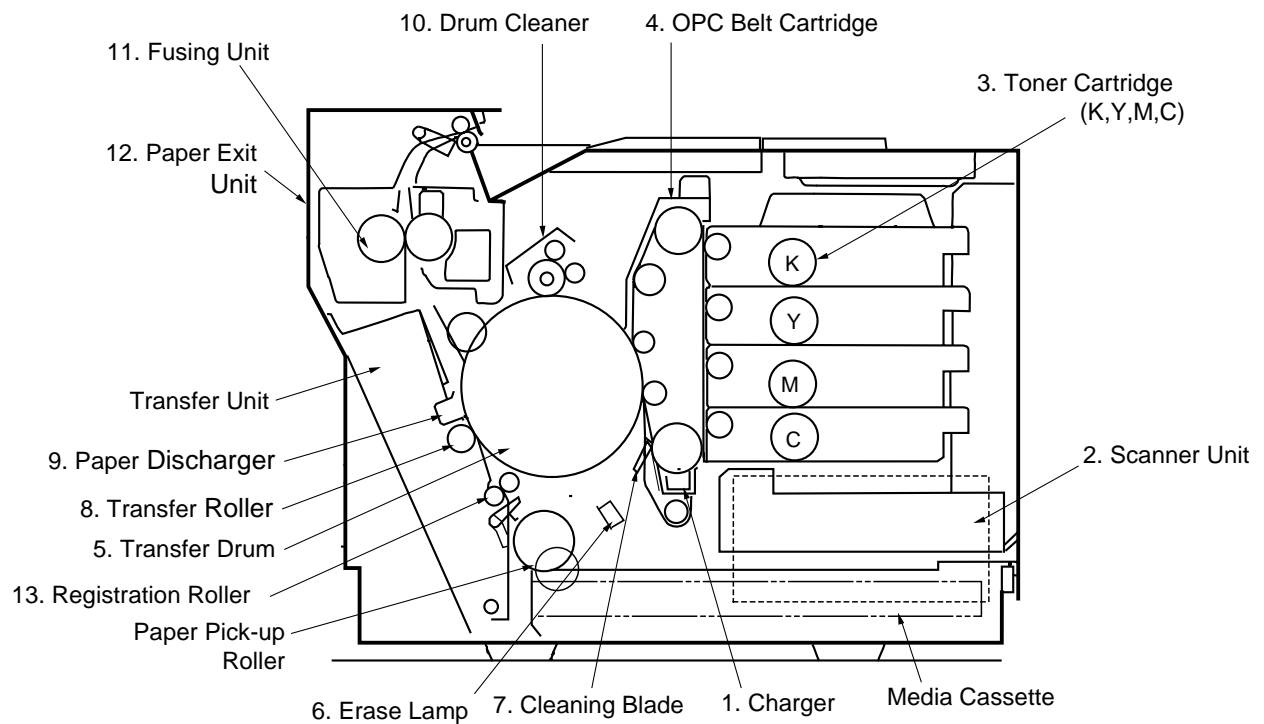
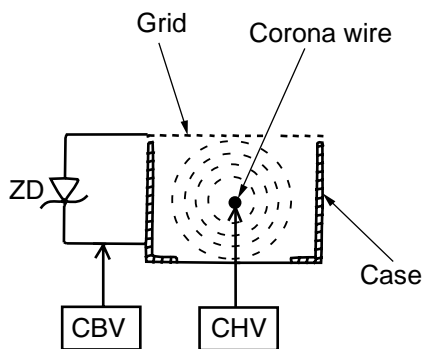

Fig.4-8
Fig.4-11
- (1) Structure of the Charger Unit (Refer to Fig.4-8 and Fig.4-11)
- i) The charger unit is located as shown in Fig.4-8.
(1) Structure of Scanner Unit
- i) The scanner unit is located as shown in Fig.4-8.
- (1) Structure of the Toner Cartridge (Refer to Fig.4-8 & 4.14.)
- i) The toner cartridge is located as shown in Fig.4-8.
- (2) Process of Developing (Refer to Fig.4-8, 4-14, 4-15, and 4-16)
- (1) Structure of the Transfer Drum (Refer to Fig.4-8.)
- i) The drum is located as shown in Fig.4-8.
- (1) Structure of Erase Lamp
- i) The erase lamp is located as shown in Fig.4-8.
The blade for the belt cleaning is located relative to the OPC belt cartridge as shown in Fig.4-8.
(1) Second Transfer Structure
- i) The transfer roller for the paper transfer is located as shown in Fig.4-8.